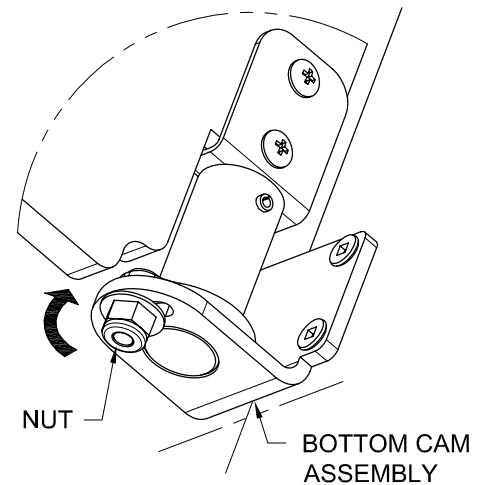

fig. 9
- a. If door panels are not properly aligned, loosen nut below bottom cam assembly (fig. 9) using a $\frac{7}{16}$ " socket wrench and adjust by moving pin to proper location or angle.